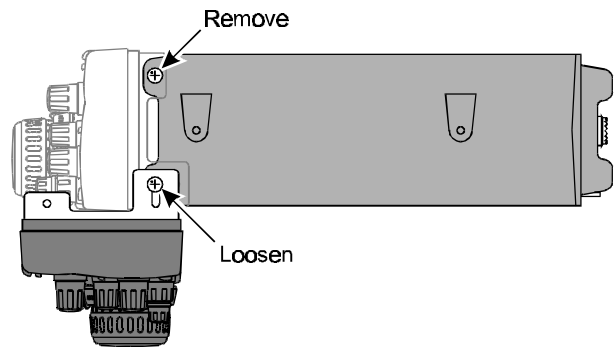

Figure 4
- ② Refer to Figure 4, remove the two front panel mounting screws and loosen the two front panel mounting screws, then fold the front panel down.